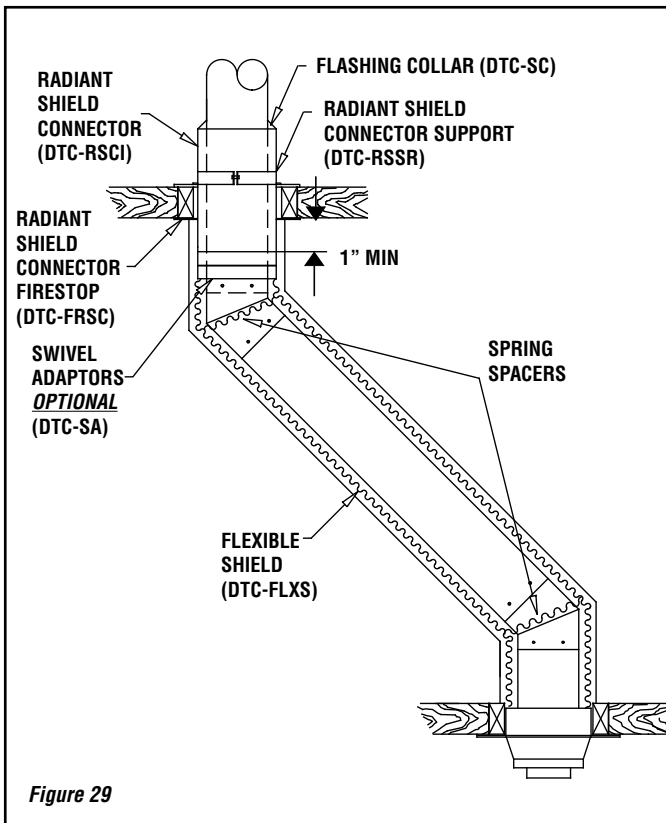

Figure 29
**Step 1.** Install the insulated offset elbow on the vertical chimney length. Turn it in the required direction and fasten it to the chimney with the (4)-1/2" metal screws provided.
**Step 3.** Use another elbow to turn the chimney vertically. Again secure the elbow to the chimney length using the (4)-1/2" metal screws.
**Attach a spacer spring around the chimney at each elbow to help keep the flexible shield centered.** (See **figure 29**) Slide the flexible shield up the chimney and attach it below the ceiling to the Support Radiation Shield using 3 self tapping metal screws. If you are limited in space to screw, install a Swivel Adaptor (ASP) (**figure 29**) below the Shield Connector (SRS) and one on the top end of the flexible shield.